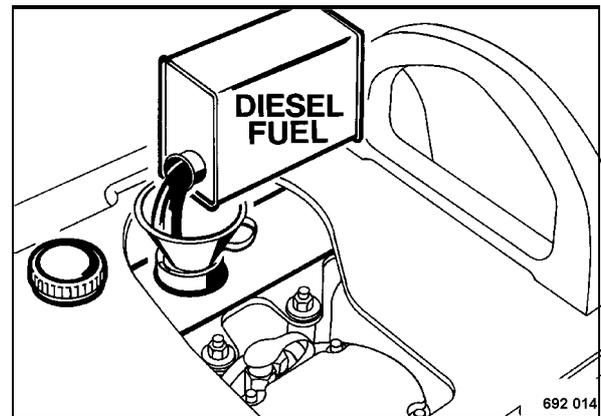

Fig. 51
- Clean the area around the tank cover, screw the tank cover (Fig. 51) off.